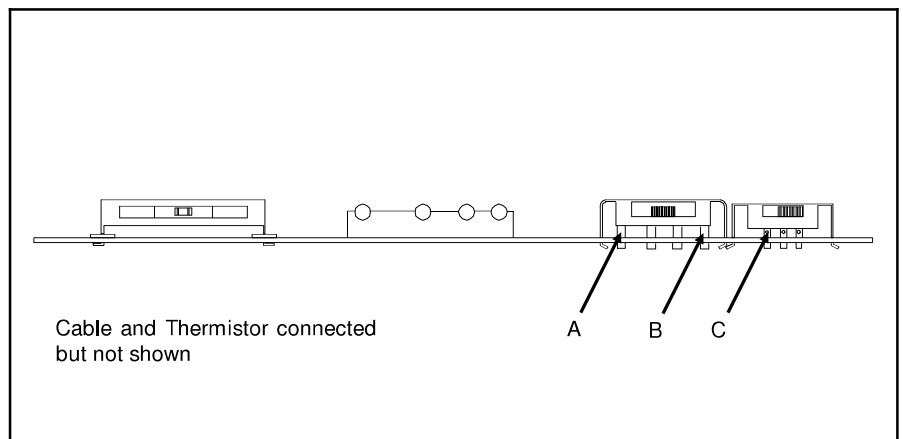

Figure 11.42 Control Voltage Check
16. With the volt-ohm-meter check the three points (A, B and C) indicated in Figure 11.42 for 12 volts DC. If you do not have 12 volts the cable is defective.
- A. Set the Mode Selector to all modes of operation. The 12 volts as indicated in Figure 11.42 should go to zero.